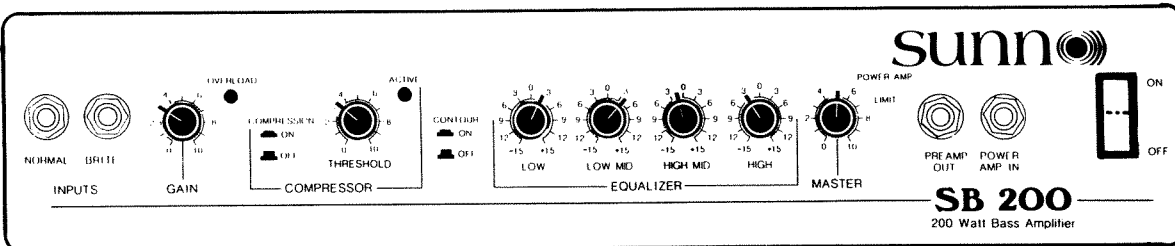

FIGURE 2
2. FRONT PANEL JACKS, CONTROLS and LEDs. Refer to **Figure 2** for the locations of the jacks and controls described in the following paragraphs.